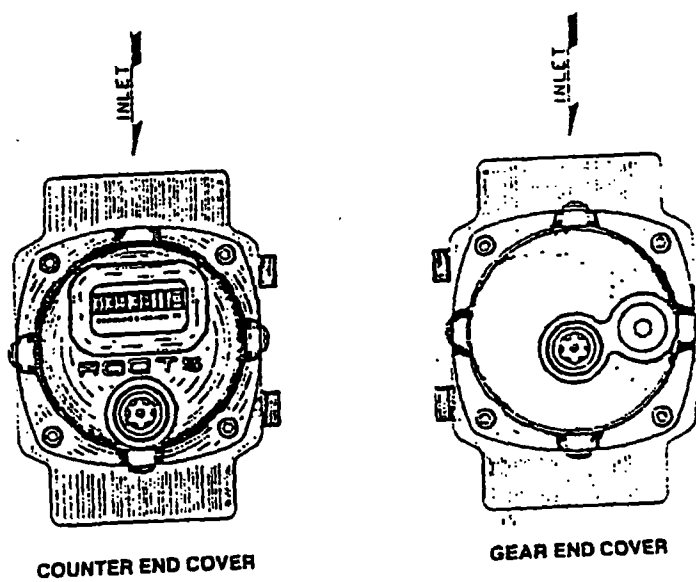

Figure 3—TOP INLET
Step 1—Top Inlet (reference Figure 3). The meter will have the nameplate and ¼ inch differential plugs on the right side of the cylinder when viewed from the counter end of the meter. The nameplate